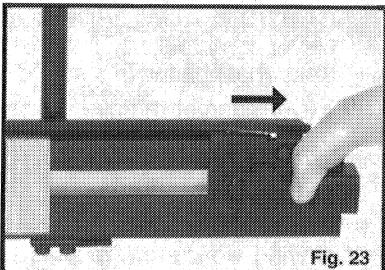

Fig. 23
- A. Pull staple follower all the way to the rear (see Fig. 23), allowing follower to lock in the open position.